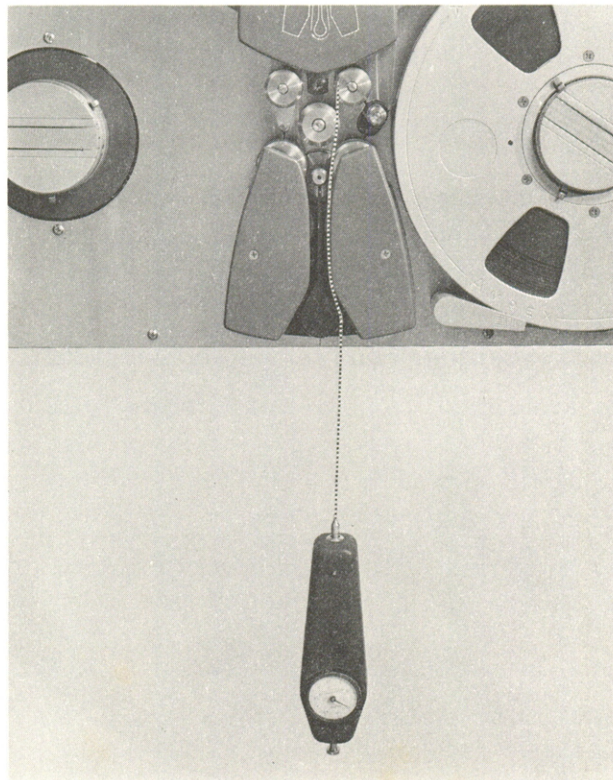

Figure 6-1 Tape Tension Measurement
- Step 2: Thread the tape as shown in Figure 6-1.